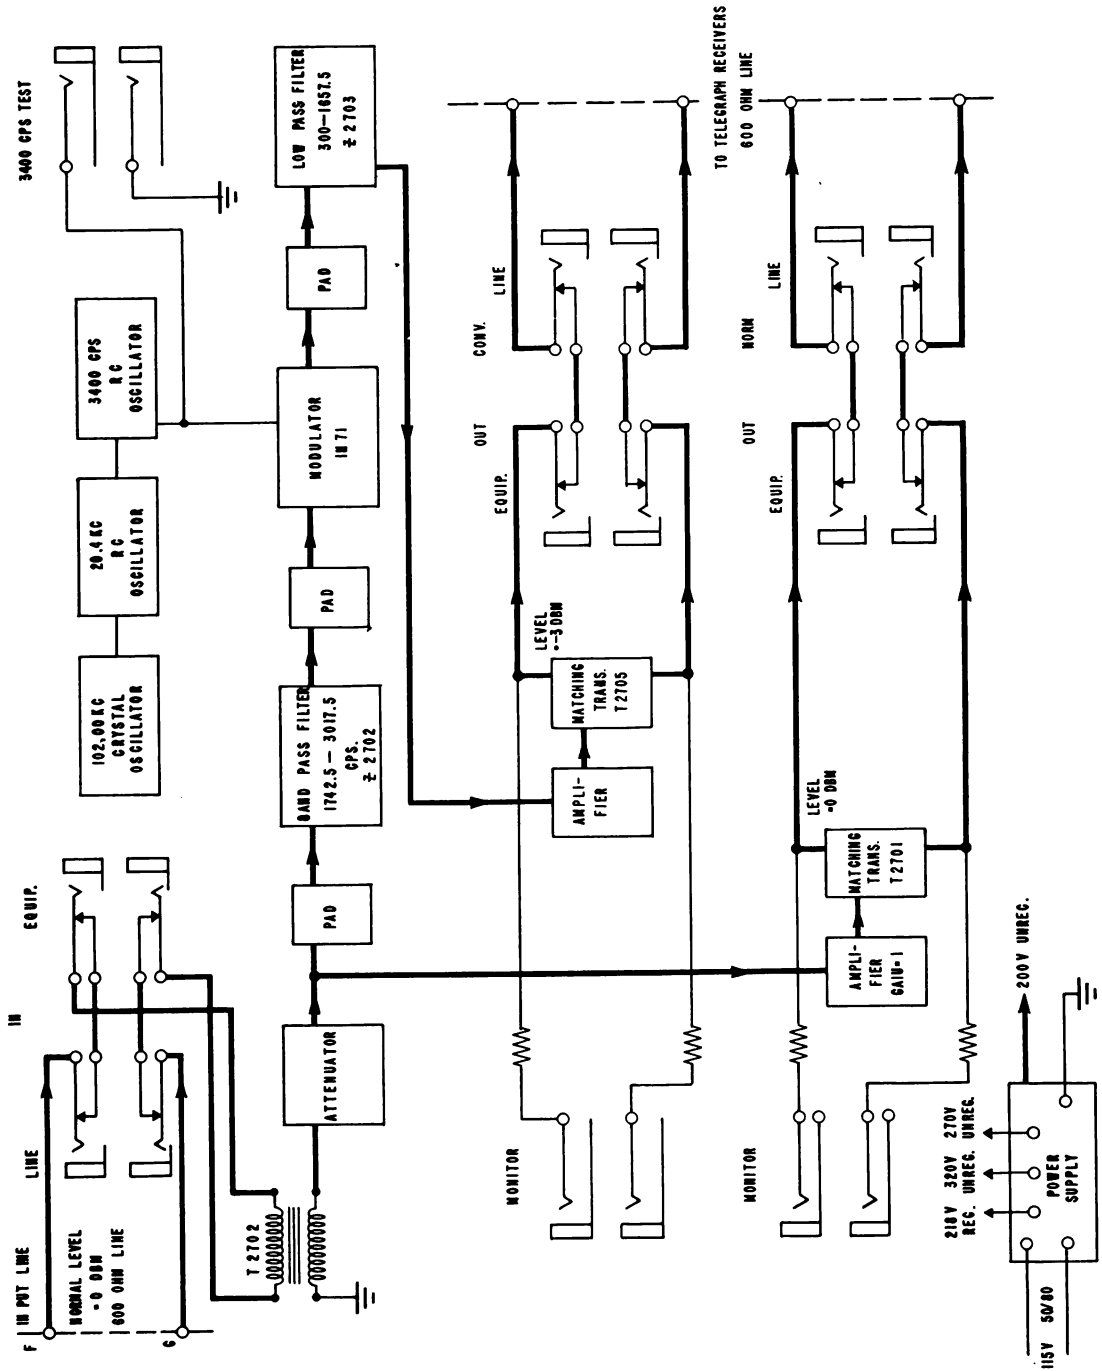

Figure 2-21. Block Diagram of Electronic Frequency Converter CV-244/FCC-3
a. **BLOCK DIAGRAM.** - The block diagram of figure 2-21 shows the principal circuits of the Electronic
Frequency Converter CV-244/FCC-3. This equipment accepts telegraph carrier signals from the Electronic Frequency Converter CV-243/FCC-3 in the frequency range of 382.5 to 3315 cycles per second, separates the frequency band of 1742.5 to 3017.5 cycles, shifts it from 382.5 to 1657.5 cycles, and transmits it to a set of telegraph receivers. A line amplifier with an overall gain of one, amplifies the complete audio frequency range and transmits the 382.5 to 1657.5 cycle band of the input signal to another set of telegraph receivers. As shown in the block diagram of figure 2-21, the incoming signal from the line is transformed with a 1:1 isolation transformer and attenuated with a 20-step variable ATTENUATOR of 2 db steps. The output of the attenuator is applied to the line amplifier for normal channels and also to the band-pass filter through a 3 db T-pad. The purpose of this is to maintain a proper match for the filter when the variable attenuator is set at zero. Signal frequencies in the range of 1742.5 to 3017.5 cycles are passed by the filter Z2702, whose output is matched with a T-pad to the 1N71 modulator. Since the modulator bridge is supplied with the 3400 cycle voltage output of the oscillator and frequency divider circuits, the output voltage of the